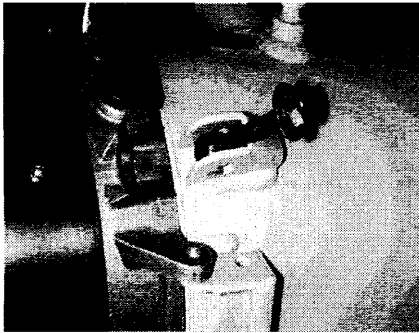

Figure 1.
4. For opening of heaters, both eyebolts of the housing are to be loosened (see figures 1 & 2).
7. When reassembling the burner head to the heat exchanger the eyebolts and ears must be in the correct position during tightening (see figure 1). **Tighten the eyebolts to a maximum of 4.0 Nm (35.5 lb/in.). Over-tightening could damage the casting. If the split pin was removed, it must now be refitted.**